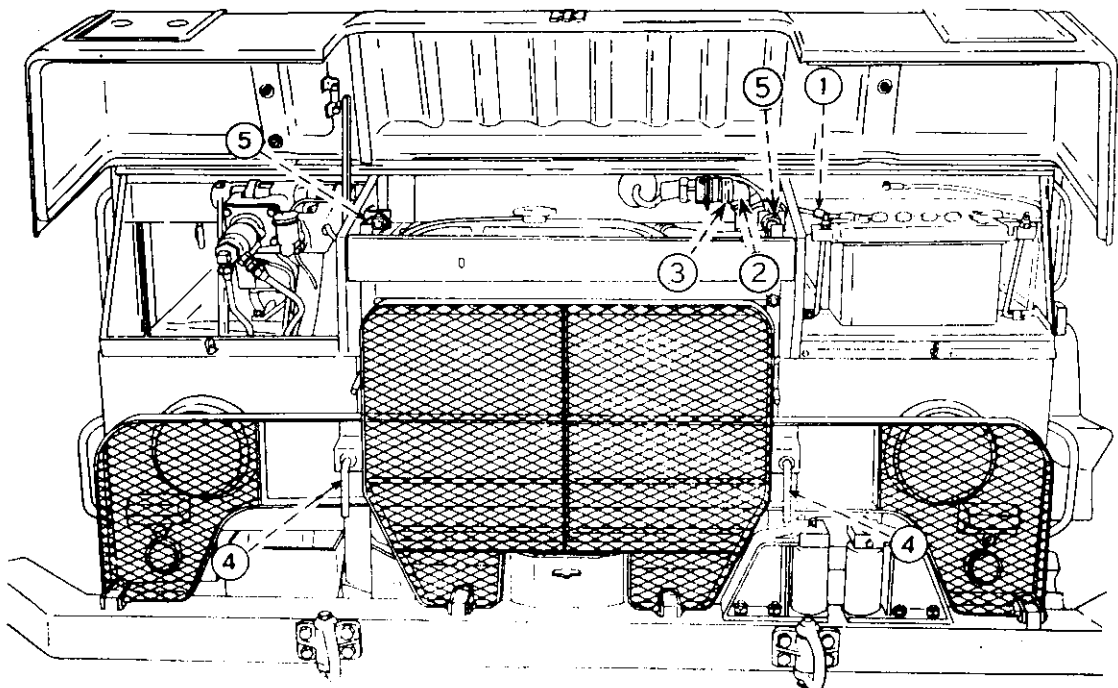

FIG 15 - CAB FRONT END
- a. Disconnect the battery terminals and remove the battery (see fig 15).
c. Disconnect the cannon plug by unscrewing the serrated ring nut (item 3, fig 15) and pulling out the elbow sleeve (item 2).
h. Unscrew the two hand bolts (item 4, fig 15) and swing the brush guard forward and down on its hinges. This then becomes a step up to the front compartments.
m. Remove four bolts (two from each side) attaching the radiator stabilizers to the side of the front compartments, and swing the brackets clear (item 5, fig 15).